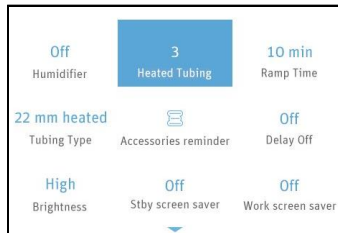

Fig. 16-6
**Note:** The **Heated Tubing** option can only be adjusted when the device is connected to a Heated Tubing, as shown in Fig. 16-6.